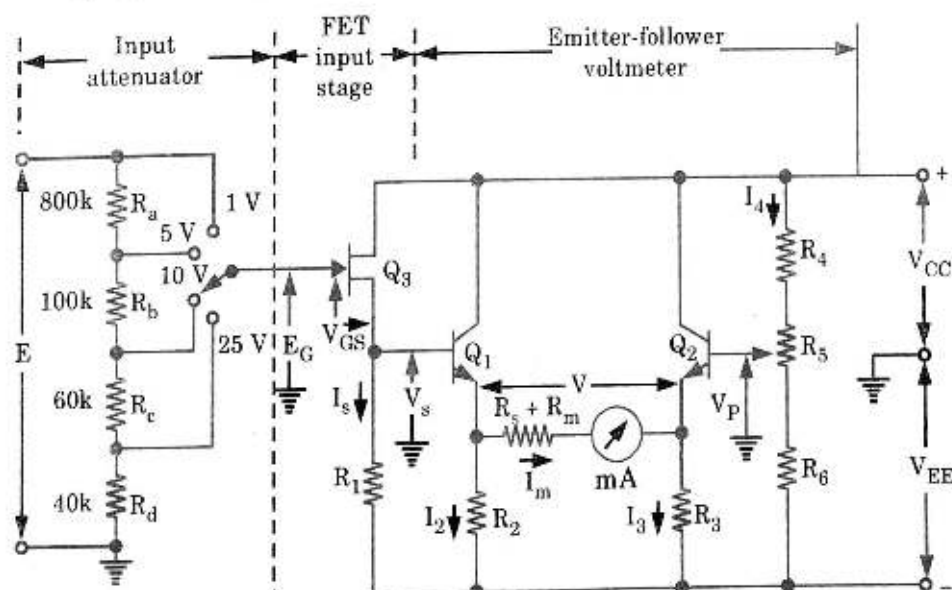

Fig. 2.3.1. FET input voltmeter.
1. The potential divider constituted by resistors R_a , R_b , R_c , and R_d in Fig. 2.3.1 allows large input voltages to be measured on an emitter-follower voltmeter.
1. The circuit diagram for FET input voltmeter is shown in Fig. 2.3.1.
4. Consider the voltage levels in the circuits of Fig. 2.3.1. When $E = 0 \text{ V}$, the FET gate is at the zero voltage level.